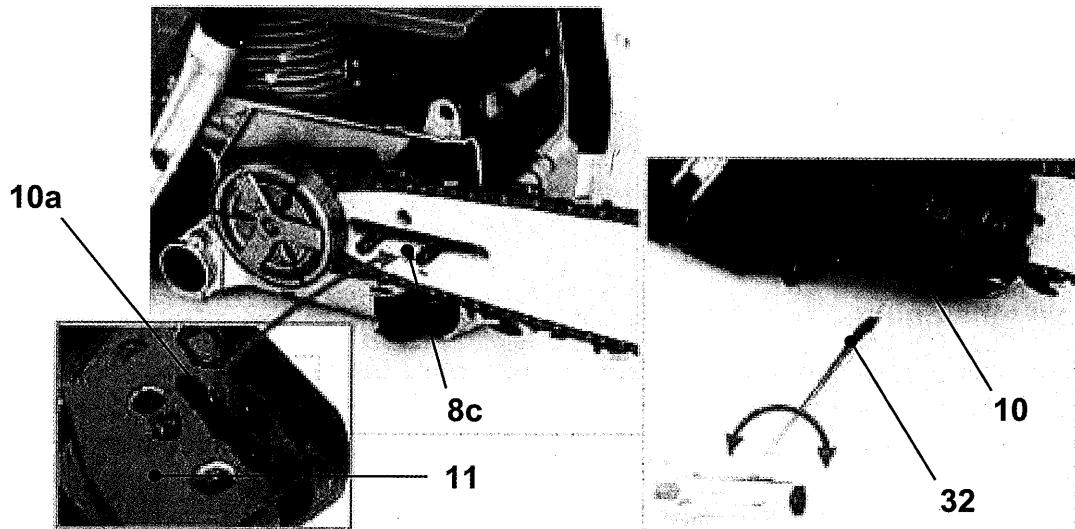

Fig. 6
9. Refit the cover (11). If necessary, turn the tension screw (10) clockwise or anticlockwise with the multi tool (32) to adjust the tension pin (10a) until it reaches a position where it can be inserted into the tension hole (8c) (Fig. 6).